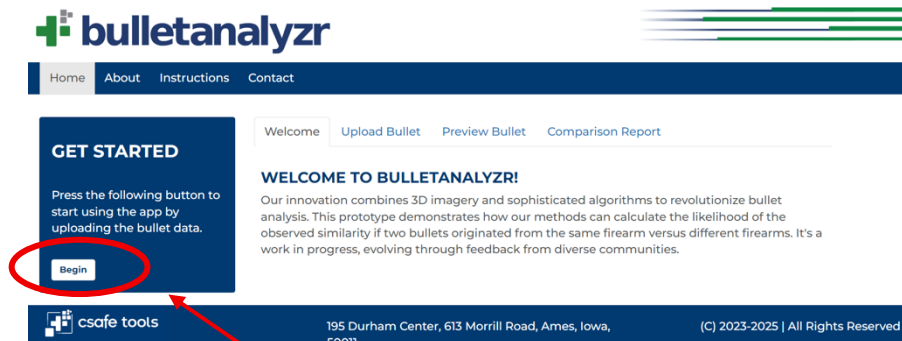

Figure 8. Click Begin on the BulletAnalyzr home page to get started.
- Click Begin on the BulletAnalyzr home screen. (Figure 8)